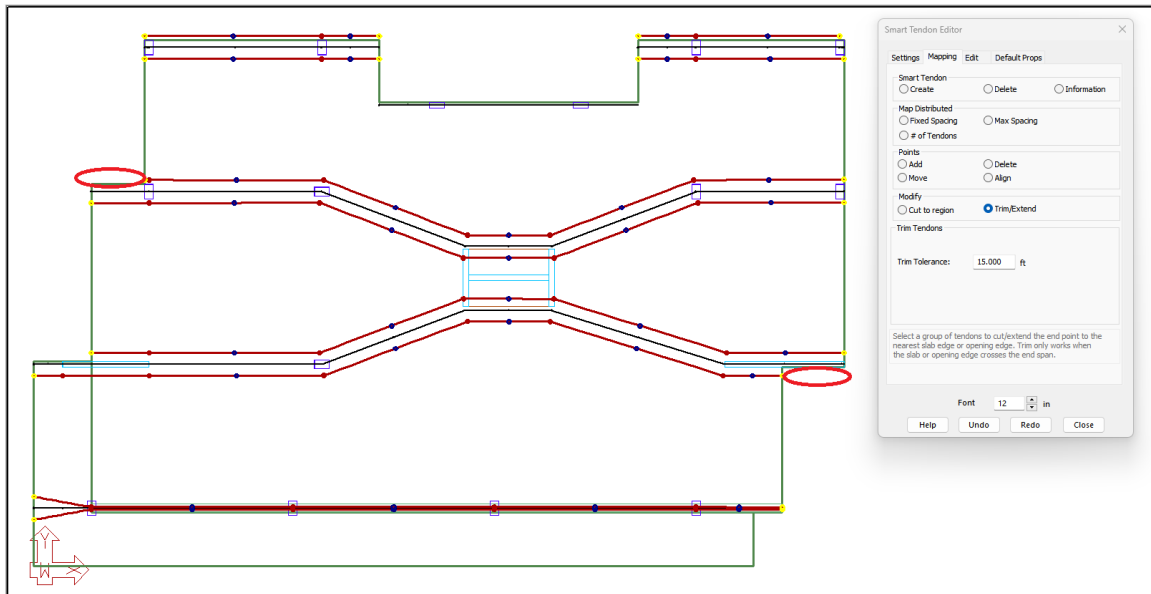

FIGURE 9-48
- There are two other locations where the tendons are sticking outside of the slab circled in red in **FIGURE 9-48**. Follow these same steps to trim the tendons back in these locations. Once you are done, your model will look as shown in **FIGURE 9-48**.